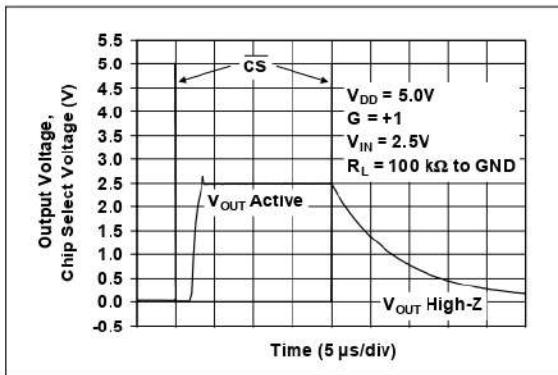

FIGURE 2-27: Chip Select Timing (MCP603).
3.3 MCP603 Chip Select (CS)
The MCP603 is a single amplifier with Chip Select (CS). When CS is pulled high, the supply current drops to $-0.7\text{ }\mu\text{A}$ (typ.), which is pulled through the CS pin to V_{SS} . When this happens, the amplifier output is put into a high-impedance state. Pulling CS low enables the amplifier and, if the CS pin is left floating, the amplifier may not operate properly. Figure 1-1 is the Chip Select timing diagram and shows the output voltage, supply currents and CS current in response to a CS pulse. Figure 2-27 shows the measured output voltage response to a CS pulse.